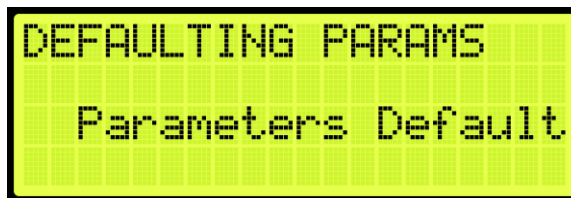

Figure 463: DEFAULTING PARAMS Menu – Parameters Defaulted
6. When the system has completed defaulting all parameters, the DEFAULTING PARAMS menu displays Parameters Defaulted (See Figure 463).